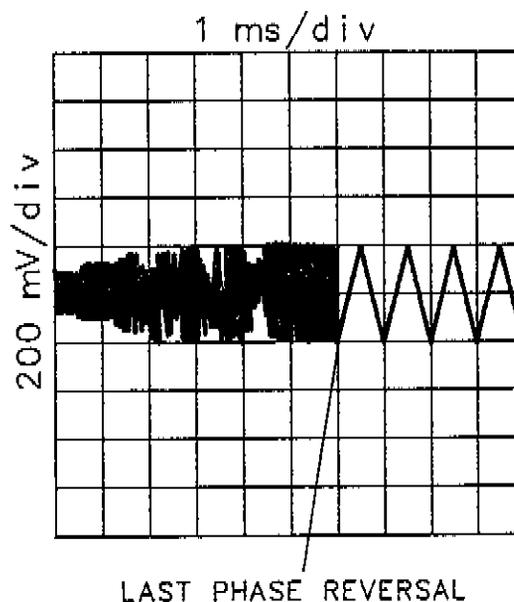

Figure 4-8. Frequency Switching Time Measurement Waveform
13. Press the digitizer (STORE M1) key on the oscilloscope and step the Signal Generator to the stop frequency with the appropriate FREQ INCREMENT key. The oscilloscope should digitize the switching waveform as the frequency changes. The waveform should now look like that shown in Figure 4-8.
14. Measure the frequency switching time by observing the digitized signal on the oscilloscope display. The external trigger is the reference for determining switching speed. The switching time is measured from the display's left graticule to the last phase reversal (as the Signal Generator frequency passes the local oscillator frequency) before the IF signal settles into a steady frequency. Refer to Figure 4-8. Record the frequency switching time.